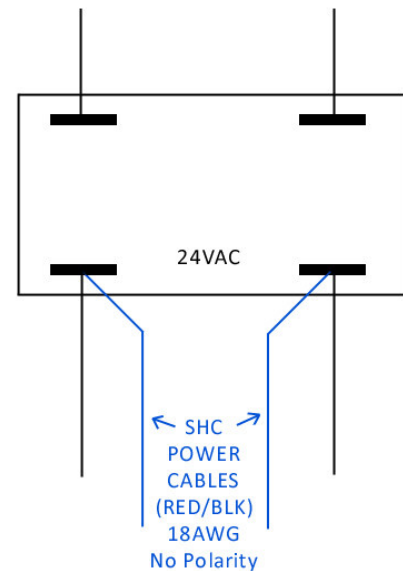

Figure 6: System Transformer
4. The SHC power cables (18 AWG red/black cables, bare leads) will need to be connected to a 24 VAC source. In nearly all cases, there will be a 24V transformer mounted in the control box of the indoor AC unit (evaporator). The transformer will likely be labeled to identify the secondary voltage terminals (See Figure 6). To be certain, check the voltage of the transformer with a multimeter to verify which side is the secondary coil. The reading should be at or near 24VAC. It is not uncommon for the voltage to be slightly higher than 24V, but should not exceed 30V.
5. Once the secondary side of the transformer has been identified and checked, **shut off power to the system**, check again (with multimeter) to ensure power is off, and connect the SHC power cables (18 AWG red/black cables). Connect one cable to each of the two secondary transformer terminals (Figure 6). There is no polarity with the SHC, so the cable order doesn't matter and the colors have no significance. Typically, the transformers will have a ¼" male spade terminal for connection, which will likely be occupied. It may be necessary to install a double female spade (or other termination) to add the SHC cable to the secondary terminals. If the SHC cables do not reach the system transformer, it will be necessary to add extensions to the cables. 18 AWG stranded copper wire is recommended for power cable extensions. Use appropriate connections/insulation to prevent water infiltration. It is recommended that dielectric grease-filled wire nuts or insulated mating connectors are used for all power interconnects.